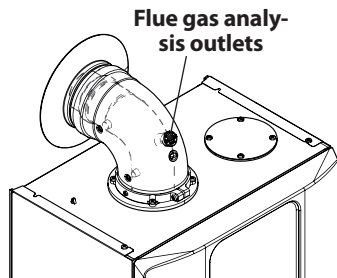

Figure 9.15
- Connect a flue analyser to the flue gas analysis outlets on the flue gas exhaust on the boiler Figure 9.15.
- Check the boiler combustion using the outlets located on the flue pipes (Figure 9.15) and compare the data measured with the following.